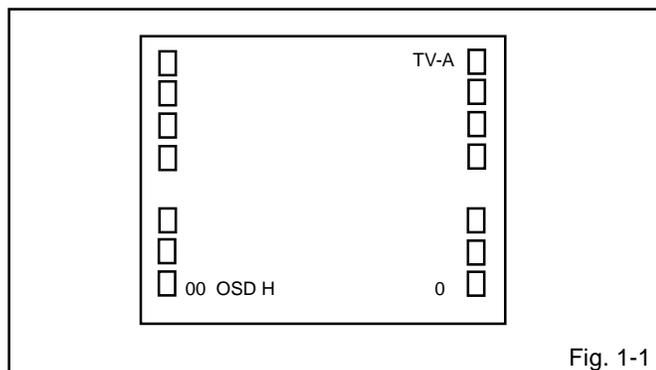

Fig. 1-1
1. In the condition of NO indication on the screen. Press the UP/ DOWN button on the set and the Channel button **(9)** on the remote control for more than 2 seconds to appear the adjustment mode on the screen as shown in **Fig. 1-1**.
4. Activate the adjustment mode display of **Fig. 1-1** and press the channel button **(02)** on the remote control to select "CUT OFF".
4. Activate the adjustment mode display of **Fig. 1-1** and press the channel button **(11)** on the remote control to select "R.BIAS".
3. Activate the adjustment mode display of **Fig. 1-1** and press the channel button **(17)** on the remote control to select "BRI CENT".
3. Activate the adjustment mode display of **Fig. 1-1** and press the channel button **(21)** on the remote control to select "CONT.MAX".
4. Activate the adjustment mode display of **Fig. 1-1** and press the channel button **(26)** on the remote control to select "TINT".
4. Activate the adjustment mode display of **Fig. 1-1** and press the channel button **(23)** on the remote control to select "COL.CENT".